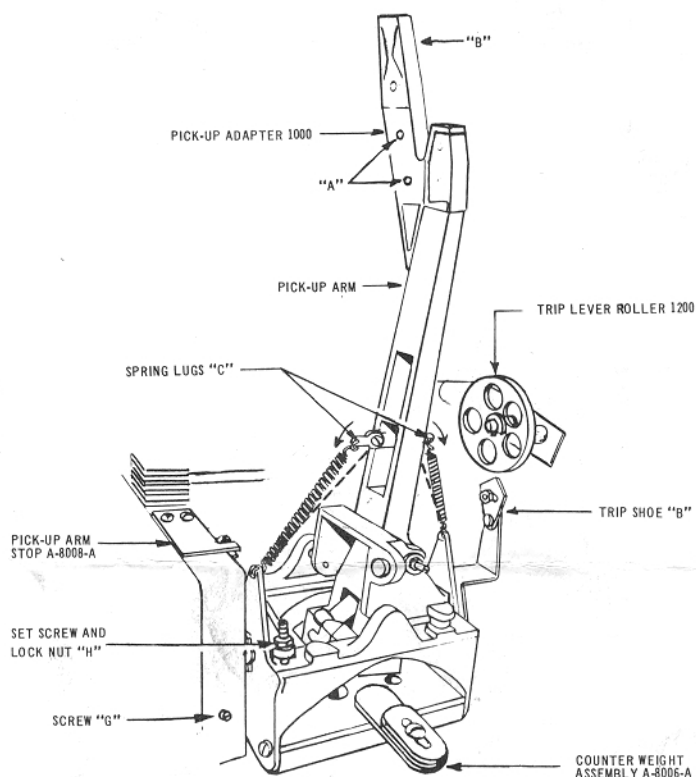

FIGURE 4. PICK-UP ARM
4. INSTALLATION OF NEW PICK-UP ADAPTOR AND RELATED PARTS (See Fig. 4):
- B. Insert the contact plate from the old pick-up holder into the new "Pick-up Adaptor" and insert the two new 45 R.P.M. needles into the pick-up. (Fig. 4).
D. Loosen screws and turn the spring lugs "C" (Fig. 4) downward into a straight line with the springs. Do this carefully. This will apply approximately 12 grams needle pressure on the record being played. Tighten screws to hold lugs in this position.
E. Lift the pick-up arm up and place the new "Counter-Weight Arm Assembly A-8006-A" in position as shown (Fig. 4). This "Counter-Weight Assembly" is pre-set to counter balance the new "Pick-up Adaptor 1000".
F. Screw on new "Pick-up Arm Stop A-8008-A" using the two 5/40 x 1/4 Round Head Machine Screws furnished, and adjust the new set screw and Lock Nut mounted thereon to allow the pick-up arm to move forward (by the record grooves) sufficiently to trip and cancel the record just played but not far enough to scrape into the paper record label. Also adjust screw "G" (Fig. 4) so that the needle in the pick up is deposited (at start of play) midway between the edge, and the first groove of the record. In order to perform the foregoing place a record in playing position and turn fly-wheel by hand. In order to turn the fly-wheel by hand, manually release the trip relay (See Fig. 1) and turn the fly-wheel with the left hand and assist by turning the motor coupling with the right hand.
G. Adjust trip shoe "B" (Fig. 4) by loosening, moving and re-tightening nut so as to actuate the new "Trip Lever Roller 1200" after record has finished playing.
5. INSTALLATION OF TRIP LEVER ROLLER (See Fig. 4):
A. At "Trip Lever Roller" location (Fig. 4), remove the retaining washer, the spacer and the old roller. Also remove the saw tooth segment.